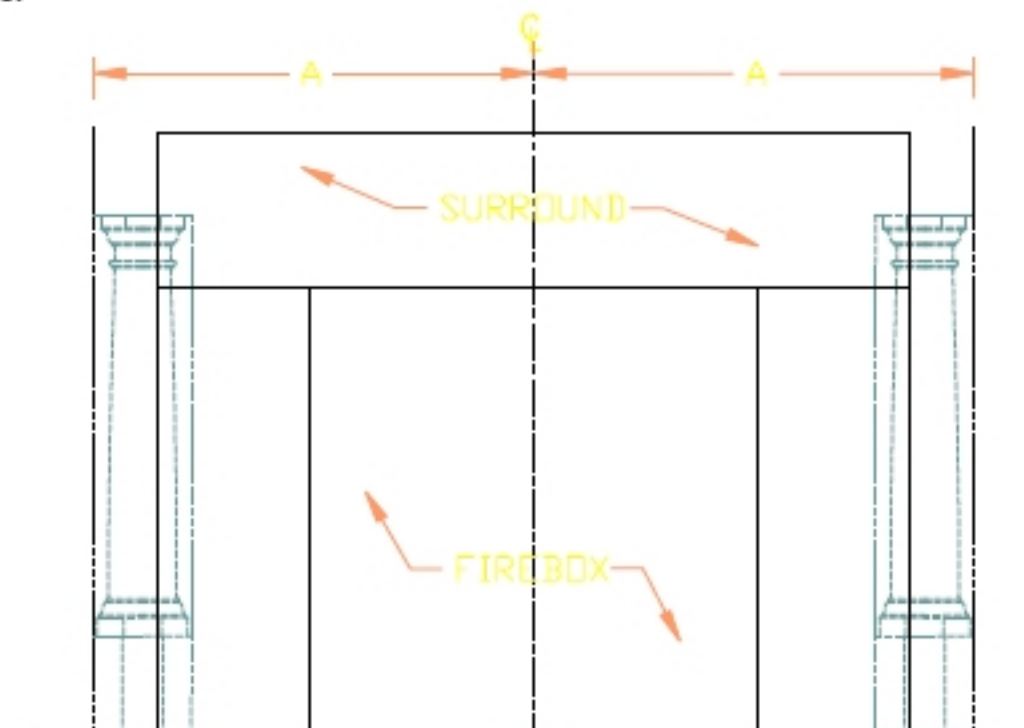

Fig. 1-1
- (a) Mark a vertical centre line on wall (fig.1-1).
- (b) Measure and mark lines for legs using a level as a straight edge (fig.1-1) ensuring that you select the correct (A) measurement listed in the legend.